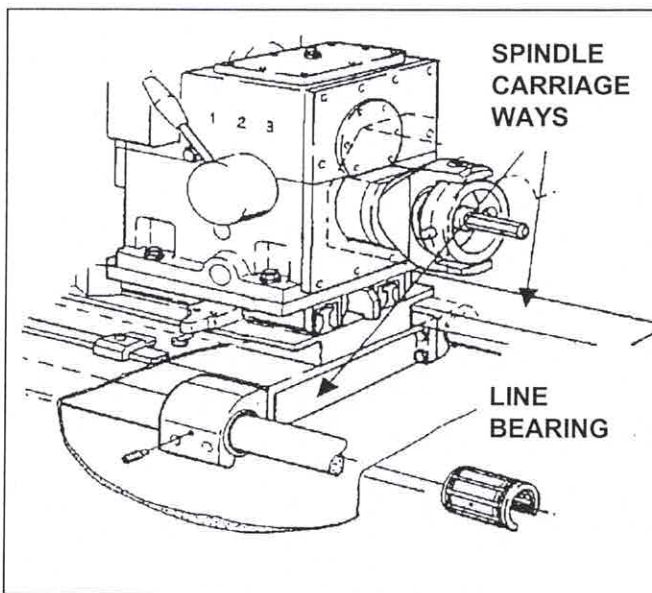

FIGURE 4-1; Spindle Carriage Ways
2. **SPINDLE CARRIAGE WAYS:** Wipe Spindle Carriage Ways (see Figure 4-1) with a clean soft cloth, and lubricate with MOBIL WAY OIL 300 or its equivalent. (EVERY THREE MONTHS)